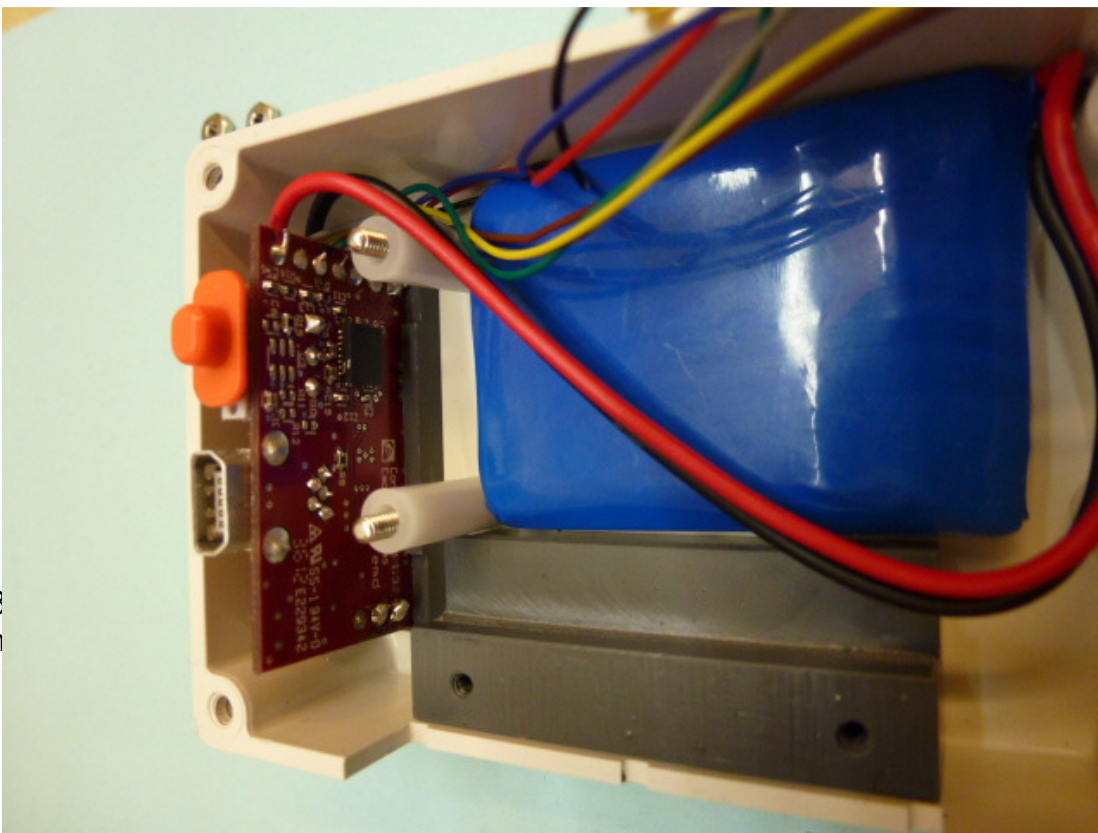

Fig. 11: EMOC BOX with spacer sleeves, showing orientation of accumulator and charging-unit
- Between these 4 sleeves put a piece of double-sided adhesive tape or similar and onto this fix the accumulator. Please see the best orientation in Figure 11.